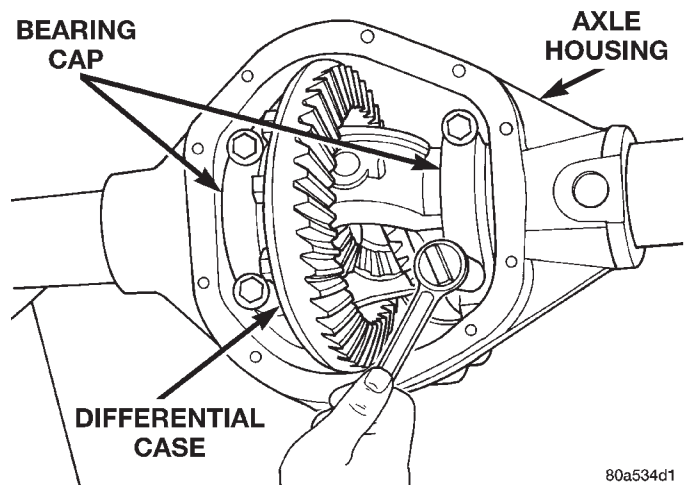

Fig. 62 Tighten Bolts Holding Bearing Caps
- (1) Remove differential side bearings from differential case.
- (2) Remove factory installed shims from differential case.
- (3) Install ring gear on differential case and tighten bolts to specification, if necessary.
- (4) Install dummy side bearings D-343 on differential case.
- (5) Install differential case in axle housing.
- (6) Install the marked bearing caps in their correct positions. Install and snug the bolts (Fig. 62).